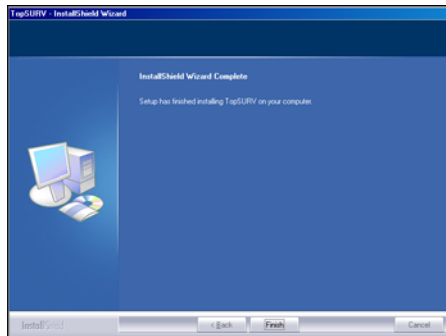

Figure 1-16. Install Finish
18. The *Setup Status* screen displays to configure software installation. When finished, the *InstallShield Wizard Complete* screen displays (Figure 1-16). Click **Finish** to exit the install program.